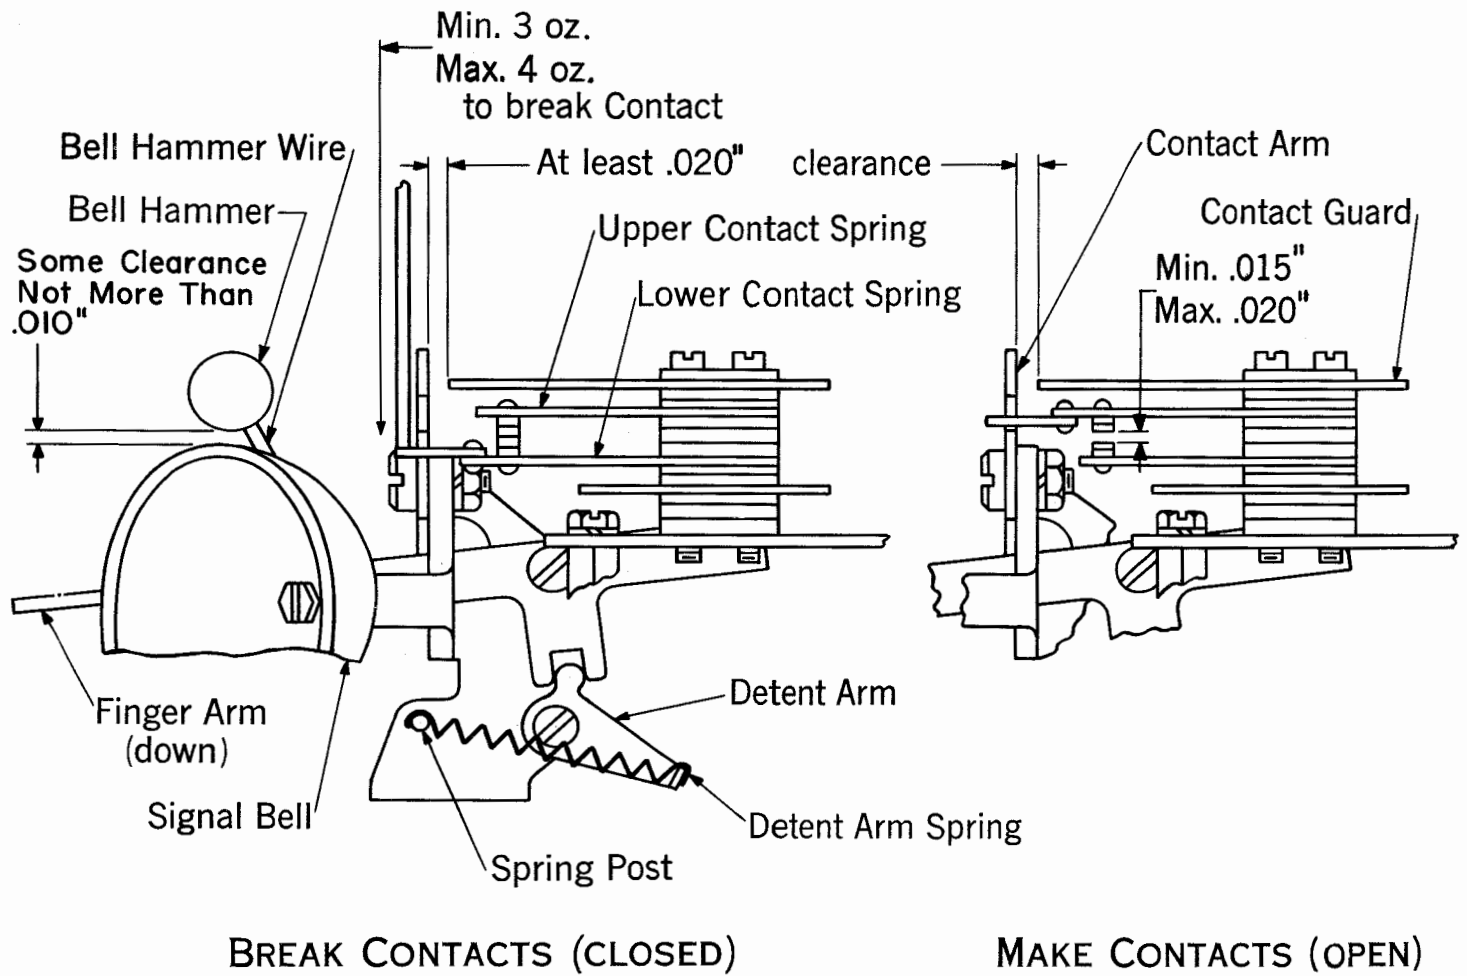

Figure 2
2.02 Bell Hammer: The bell hammer should clear the bell by approximately 0.010 inch when the finger arm is against the lower stop. (See Figure 2.)
2.03 Contact Arm: The contact arm should clear the ends of the contact guards by approximately 0.020 inch when play in the contact arm is taken up in a direction to make this clearance a minimum. (See Figure 2.)
(b) Contacts should be closed with a pressure of minimum 3 ounces, maximum 4 ounces measured at a point just in front of the contact arm and with the finger arm against the lower stop. (See Figure 2.)
(d) The clearance between the make contacts should be minimum 0.015 inch, maximum 0.020 inch with the finger arm resting against the lower stop. (See Figure 2.)
6.02 FIGS Stop-screw: With the carriage in the FIGS position, the figure 2 should print in the middle of the platen-roll.